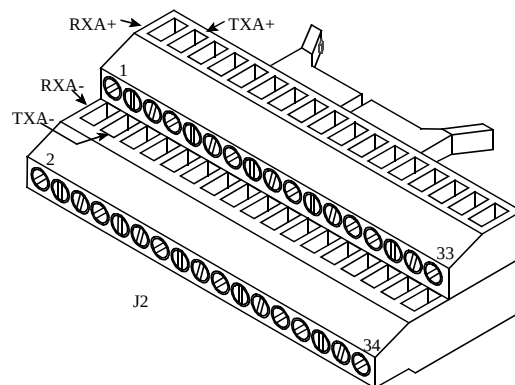

Figure 7-13 J2 TERMINAL BLOCK
2. Inject a 1 kHz tone from a balanced 600 ohm source, at the level determined by the type of line used, into TXA+ and TXA- of J2 located on the back of the Repeater (see Figure 7-13).